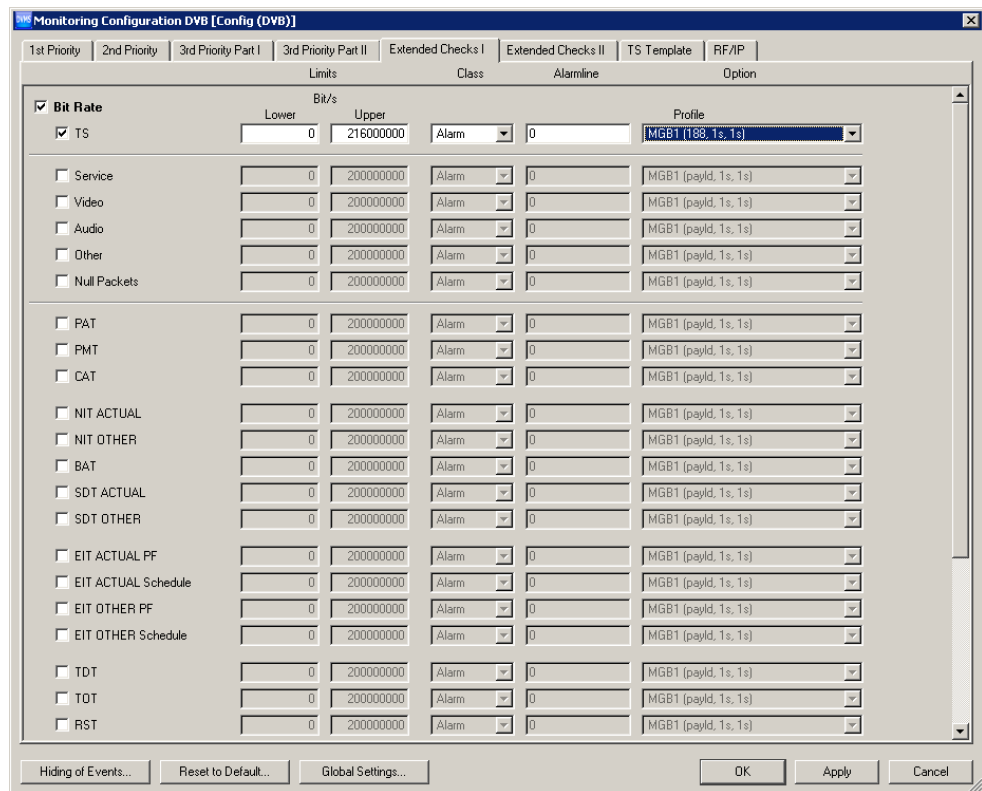

Figure 6-1: Extended Checks I tab
- Select the "Extended Checks I" tab (see Figure 6-1).